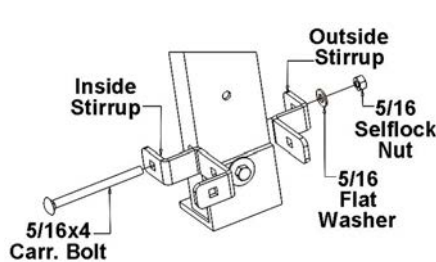
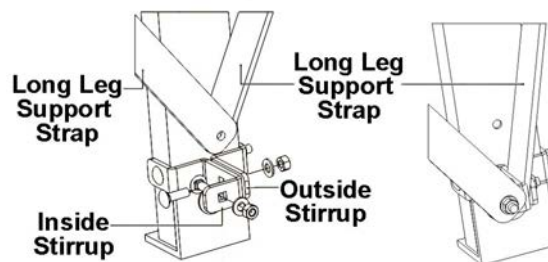
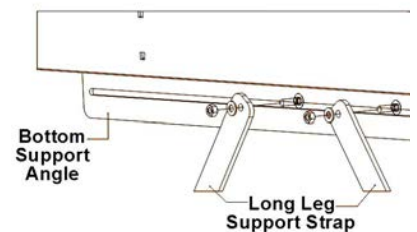

Fig.3.18
Fig.3.19
Fig.3.20
3.7.2 Platform Long Leg Support - Straps: With the platform assembly complete and set to the proper height (achieved after all ramp sections and platforms are contiguous to ensure platform is in location and leveled) install the stirrups to each leg. Making sure that the inside stirrups are to the inside of the platform; run a 5/16x4 carriage bolt through the inside stirrup, platform leg, and the outside stirrup. Fasten with a flat washer and 5/16 self locking nut (**Fig.3.18**). With stirrups installed at all leg locations begin to install the long leg support straps: two per side of platform. There will be two long support straps attached to each of the stirrups, one between the stirrups and one to the extra tab on the inside stirrup. Run the 5/16x1 carriage bolt through the square hole of the stirrup and the round hole in the long leg strap and fasten with a flat washer and self locking nut, and finger tighten hardware. (**Fig.3.19**) Pivot the long leg support strap up to and behind the bottom support angle. Align the long leg support strap round hole with the slotted hole in the bottom support angle; run a 5/16x1 carriage bolt through and finger tighten with a flat washer and self locking nut (**Fig.3.20**). Repeat this step at each location. Once all long leg straps have been installed go back and tighten hardware the rest of the way.